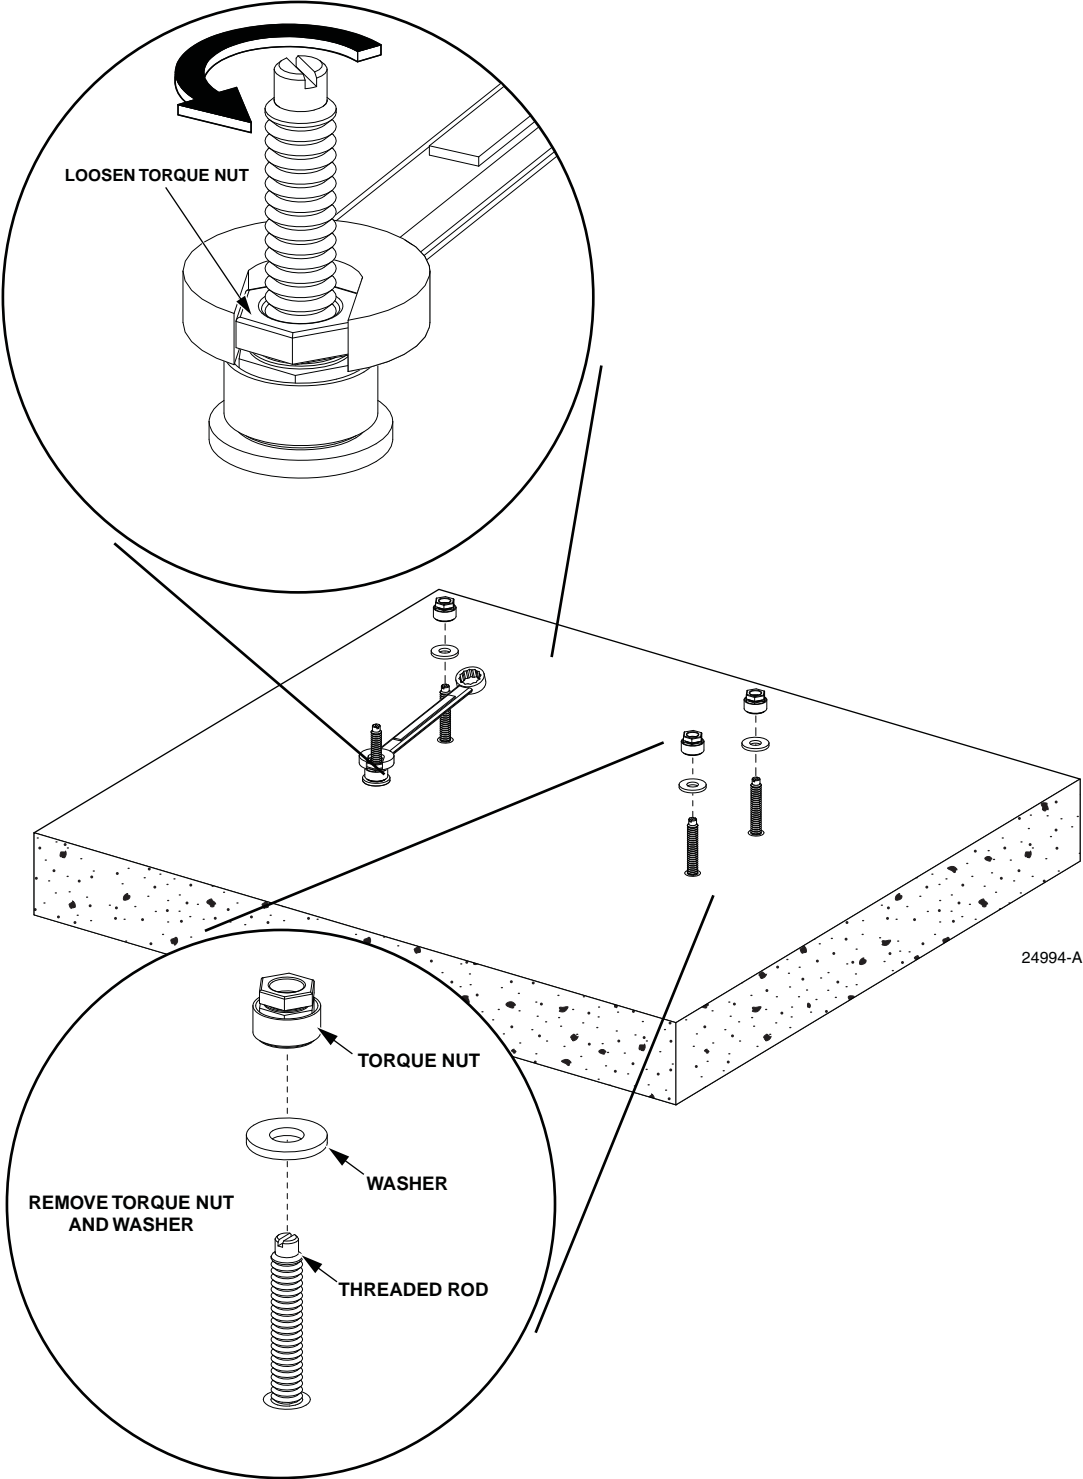

Figure 8. Removing Torque Nut and Washer
- 6. Loosen the torque nuts several turns, and then remove the torque nut and washer, as shown in Figure 8.